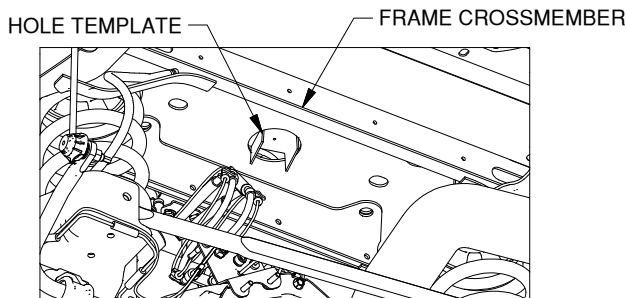

FIGURE A6: looking under truck bed towards cab.
8. **Mark the location of the 3-1/2" hole.** Insert the hole template into the center hole of the frame cross member as shown in Figure A6. Push the template upward until it is flush against the bottom of the bed floor. Make a mark on the truck bed floor through the hole in the hole template using a pencil, marker, or other tool. Once the center point is marked, remove the template. Use a center punch to place an indentation in the truck bed at the center of the mark. Using a drill and a 1/4" bit, drill a pilot hole through the bed in this location.